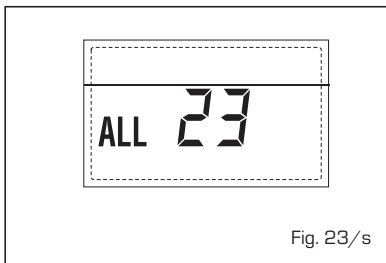

Fig. 23/s
- ANOMALÍA AVERÍA SONDA COLECTOR SOLAR S1 "ALL 24" (fig. 23/t)